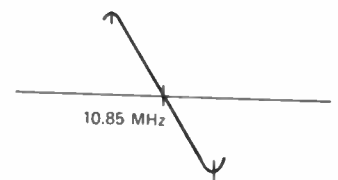

FIGURE 12
step 2: Adjust T1 and T2 so that 10.85 MHz marker is in the center of the discriminator curve as shown in Figure 12.